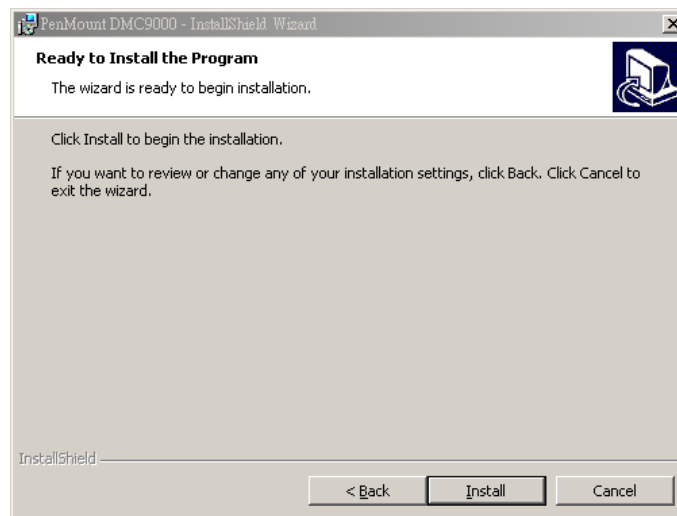

Figure 7-26: Ready to Install the Program
Step 5: Click **NEXT** and the Installshield Wizard is ready to install the program (Figure 7-26).